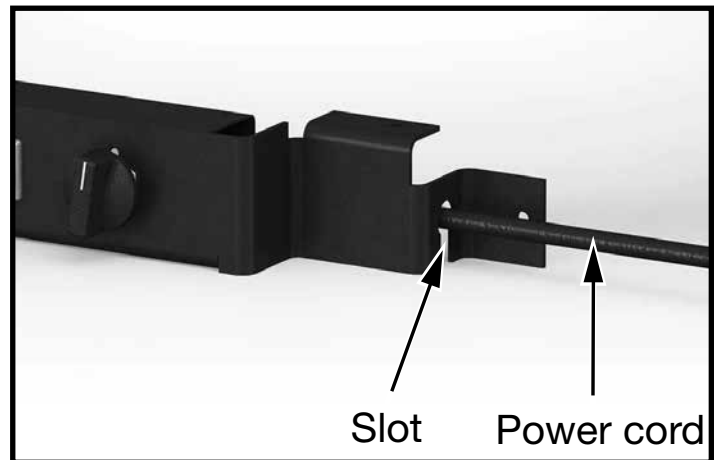

Figure 13: Power cord and slot.
2. Remove the power cord from the slot in the right side end of the control assembly (Figure 13).